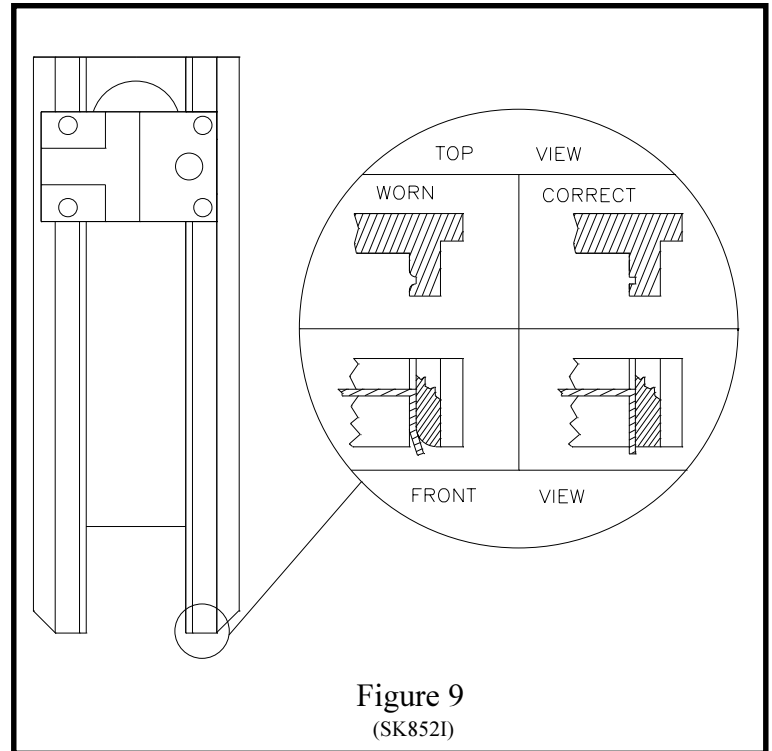
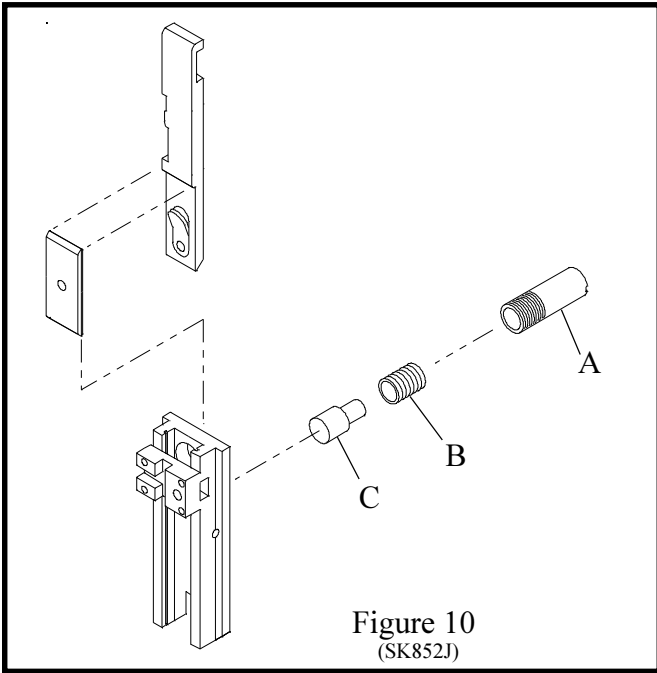

Figure 9
Figure 10
D. Bender Bar (Figure 9)
The bender bar bends the wire over the rotator and forms it into an unclinched stitch. The legs of the stitch are guided towards the work material by the bender bar grooves. The legs of the unclinched stitch should be perpendicular to the crown. When the bender bar grooves become worn, the legs tend to flare out (Figure 9) as they emerge from the grooves. This causes the legs to strike the clincher improperly. As a result, one or both legs will crumple and a broken driver bar or a broken bender bar can result. If the lower end of the bender bar grooves become chipped, it will not support the wire and may cause the stitch to break at the crown. Replace the bender bar assembly (See "H" page 15 or Fig. 10). Other bender bar functions are related to wire cutting ("J" page 16), and driving ("G" page 14).
E. Bender Bar Friction Plug And/Or Spring (Fig.10)